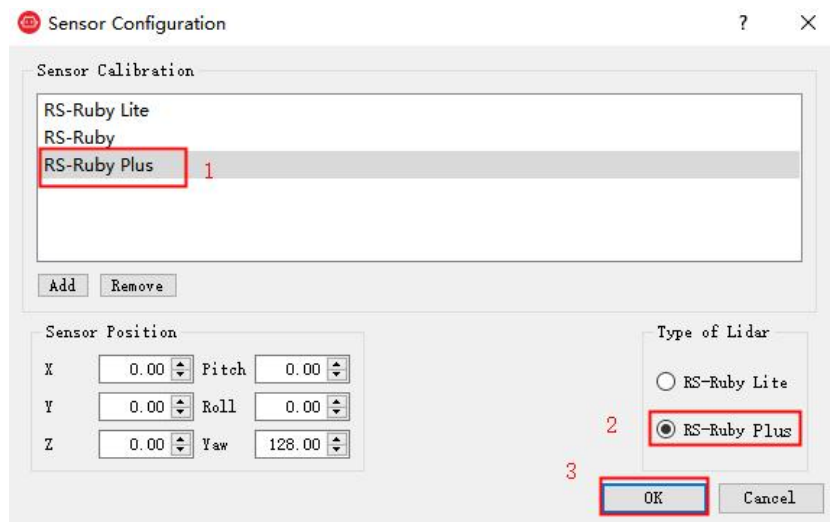

Figure C-2 Select RS-Ruby Plus Parameter Configuration File
4. The Sensor Configuration dialog will appear. In "Type of Lidar", Chose RSBPearl. In "Intensity", chose Mode3. Then click **OK**, as shown in Figure C-2: